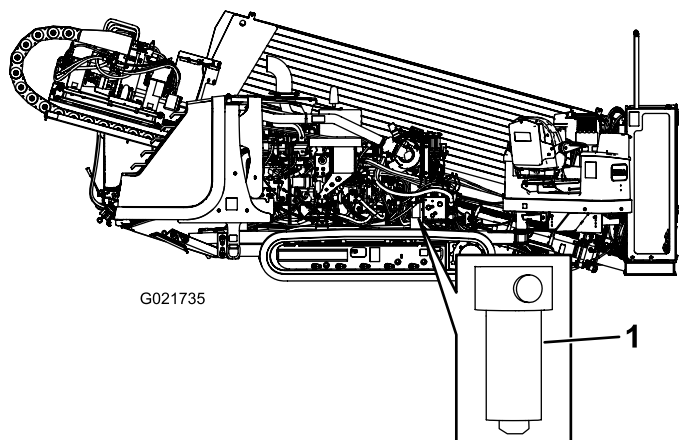

Figure 110
4. Using a filter wrench, remove the hydraulic-pressure filter (Figure 110).